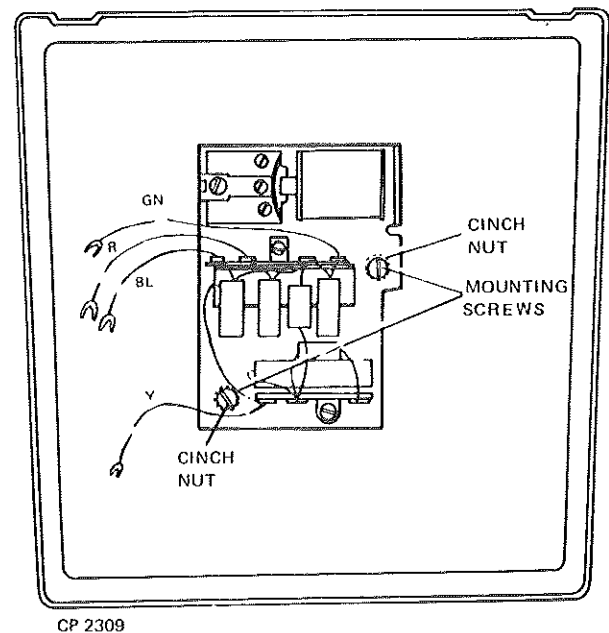

Figure 5. S-C 96A Multiline Audible Signal, Mounting
3. Mount the multiline audible signal to the telephone base (fig. 5). Use the two mounting screws provided.